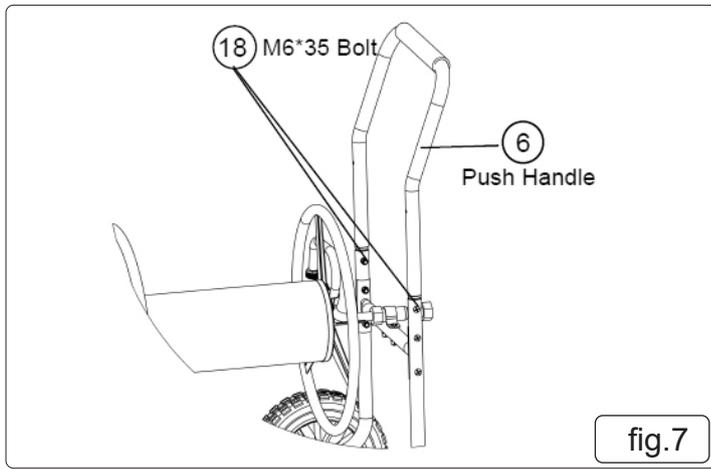

fig.7
5.7.1. Attach the push handle to the cart frame using the two M6×35 bolt sets. See fig.7.